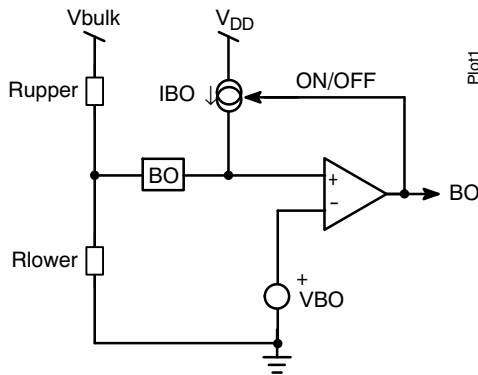

Figure 29a. The internal brown-out configuration with an offset current source.
Figure 29a, offers a way to observe the high-voltage (HV) rail. A resistive divider made of  $R_{upper}$  and  $R_{lower}$ , brings a portion of the HV rail on pin 3. Below the turn-on level, the 10  $\mu$ A current source IBO is off. Therefore, the turn-on level solely depends on the division ratio brought by the resistive divider.